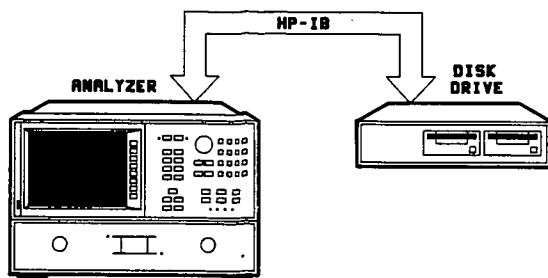

Figure 7. EEPROM Backup Procedure Setup
1. Connect the instruments as shown in Figure 7 and turn them on. Make sure the drive is set to HP-IB address 00. Then press **[LOCAL] [SYSTEM CONTROLLER]**.
1. Connect the instruments as shown in Figure 7. Make sure the drive is set to HP-IB address 00.